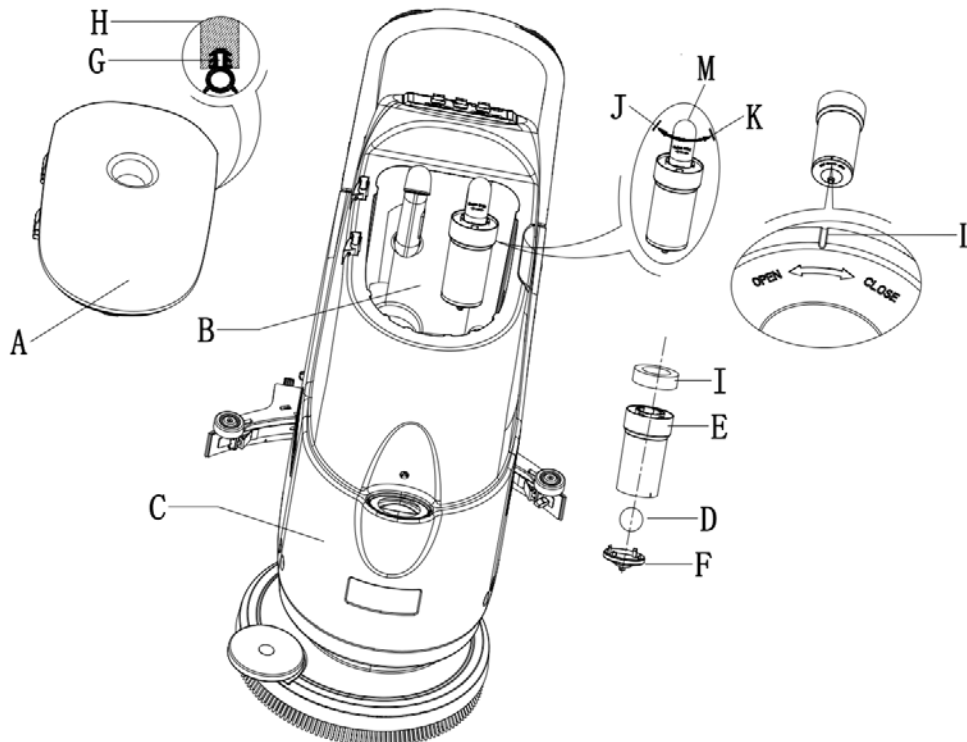

Figure 16
6. Check whether the contact surface of sealing strip (G) is integrity and sealing is sufficient. If necessary, take the sealing strip of the tank out of the groove (H) and replace it. Assembly the new sealing strip as shown in Figure16, the joint should be back in the middle area.
7. Close the recovery tank lid (A).